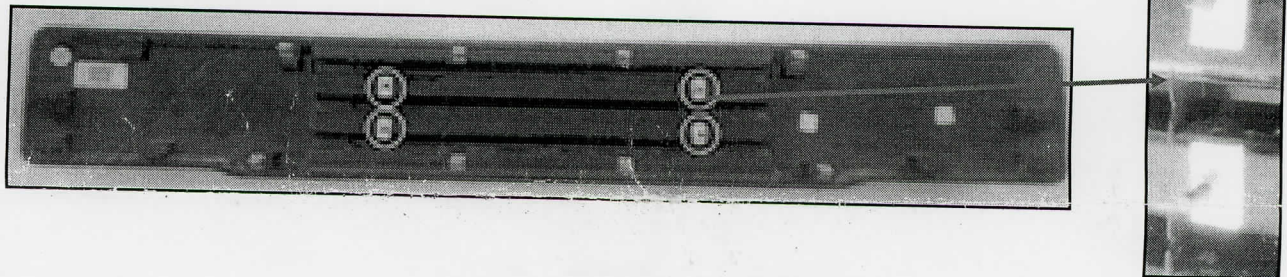

Figure 3 – All the billet grilles are installed
5. Loosely attach one the billet grille by holding a Metal Plate behind grille shell and inserting Phillips screws (from the front) through the billet grille holes and brackets. Secure them with Flange Nuts provided (Figure3).